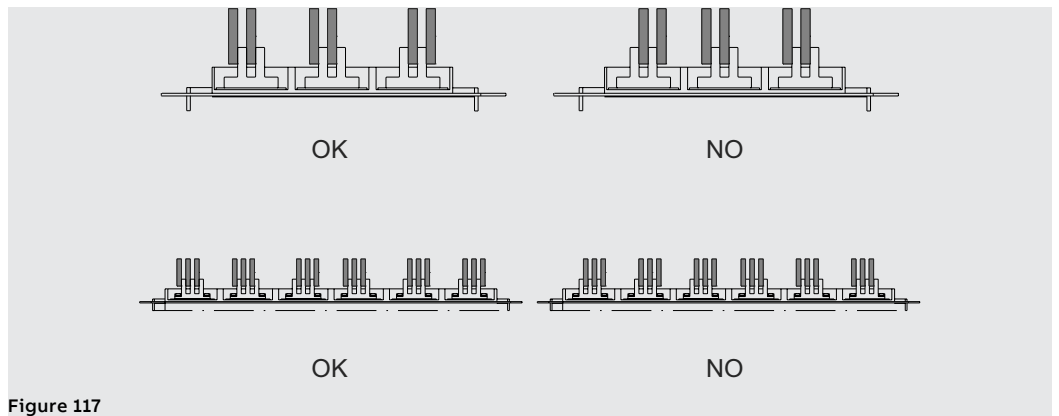

Figure 117
- Make sure that, accordingly to the number of busbars and terminal tangs, the busbars of the lateral phases are as distant as possible from the busbars of the central phase. See the example Figure 117.